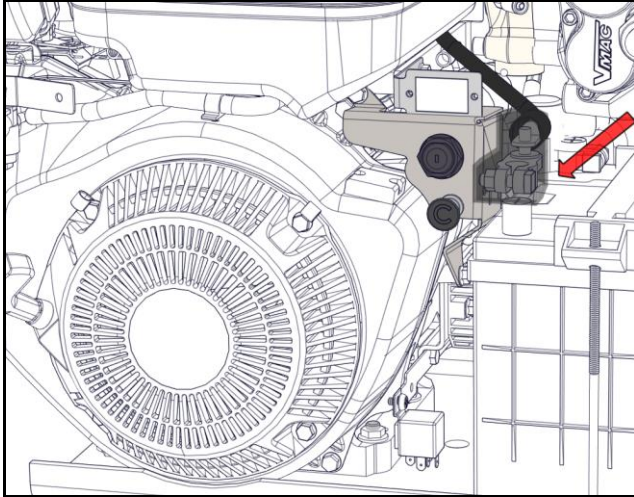

Figure 2 – Negative battery cable
- 1) Disconnect the negative battery terminal (Figure 2).